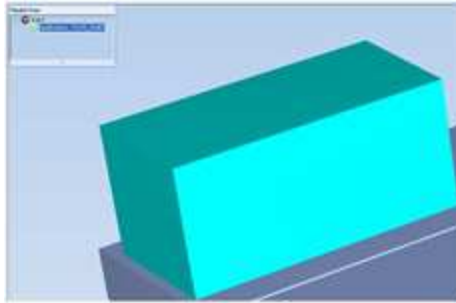

Figure 5-36 Model displayed with bounding box
- With a *Bounding Box* (see Figure 5-36 on page 5-31)